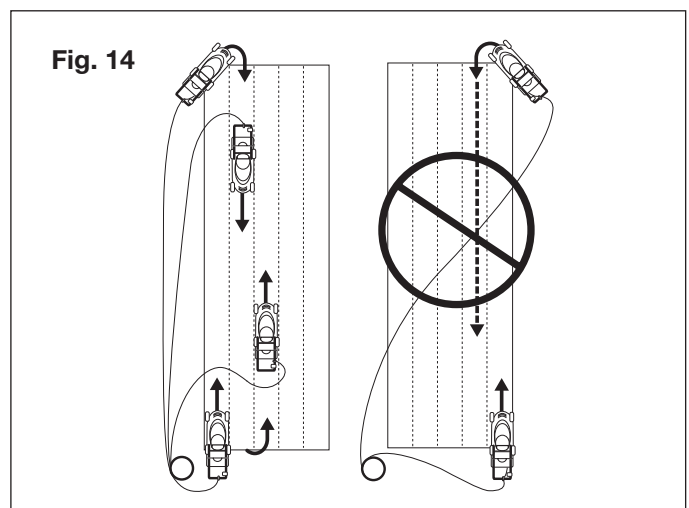

Fig. 14
- Do not mow in a circle. Travel back and forth across the lawn following the path outlined below (Fig. 14).